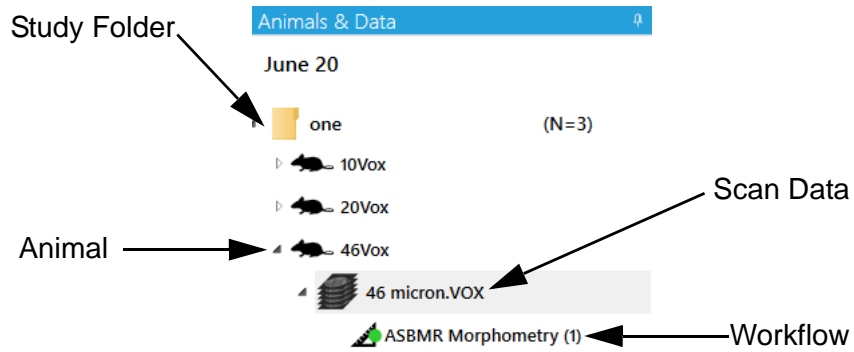

Figure 58. Workflow on Animal & Data Tab
- 5 Double-click the desired workflow. The workflow displays on the AccuCT Main Window and opens at the last completed step. If a green circle displays next to a workflow name, the workflow has successfully completed. See Figure 58.